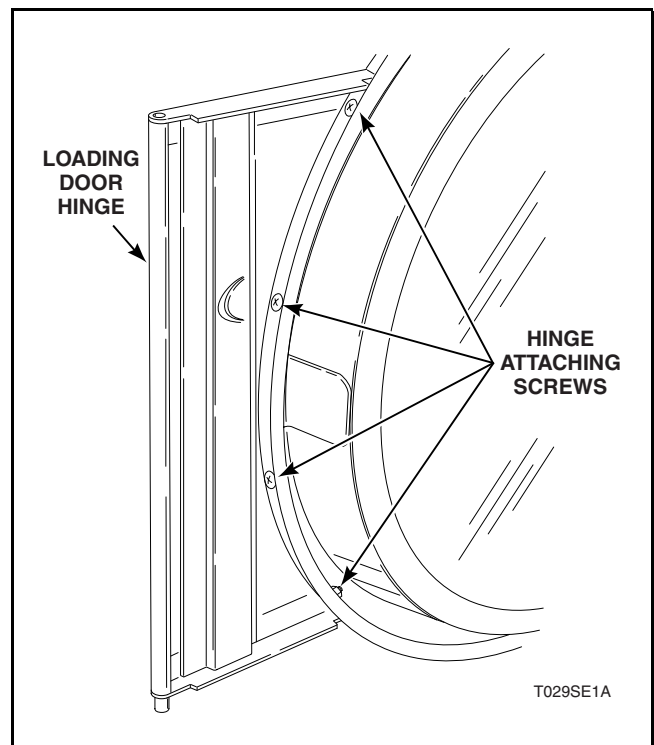

Figure 22
- Remove nuts and screws holding hinge to door frame. Refer to *Figure 22*.